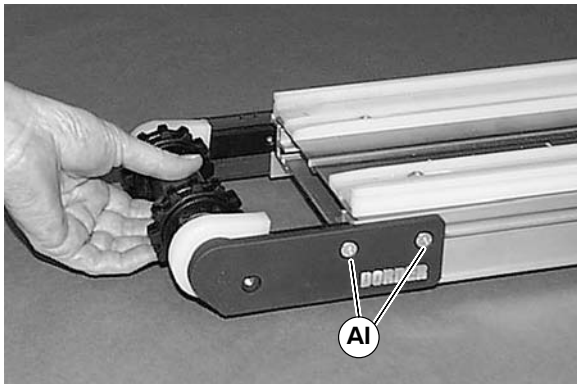

Figure 29
1. On side of conveyor, loosen two (2) fastening screws (AI of Figure 29). Remove head plate and spindle at the same time.